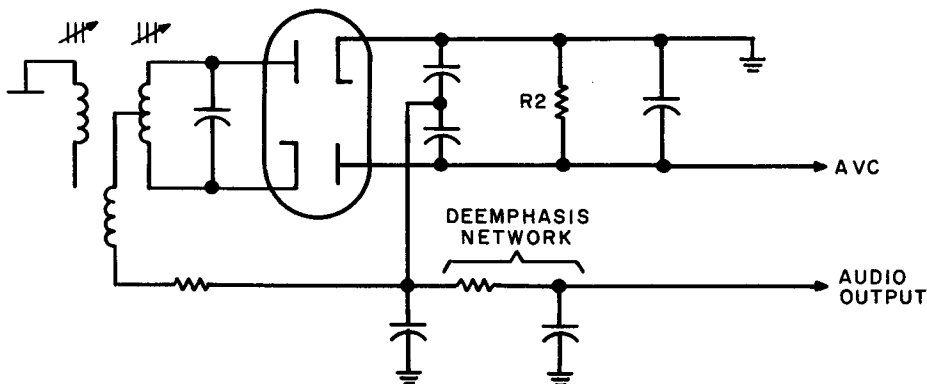

Figure 7. Basic Ratio Detector Circuit
Aligning 10.7 MHz IF and Ratio Detector. (See figure 7.)
3. Connect a VTVM across the AVC line (across resistor R2 in the circuit shown in figure 7).